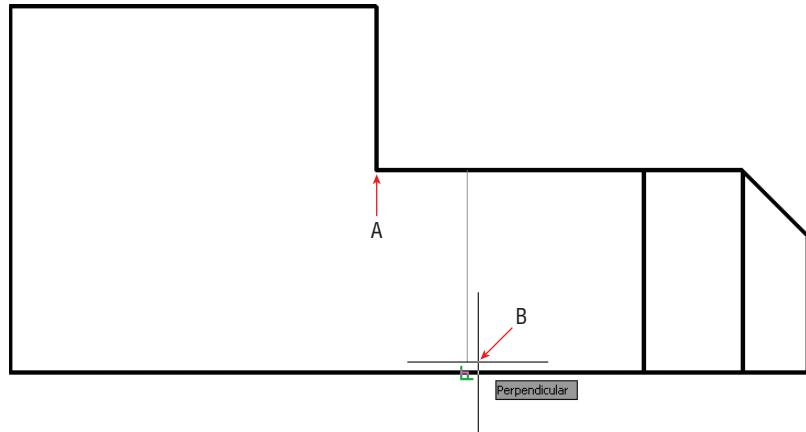

FIGURE 3.15 Drawing a line using the From object snap
3. Click point A shown in Figure 3.15. This is the point from which you will specify a displacement. Type **@6" <0** (or **@150 <0** for metric) to specify the displacement to the first point of the line and press Enter.